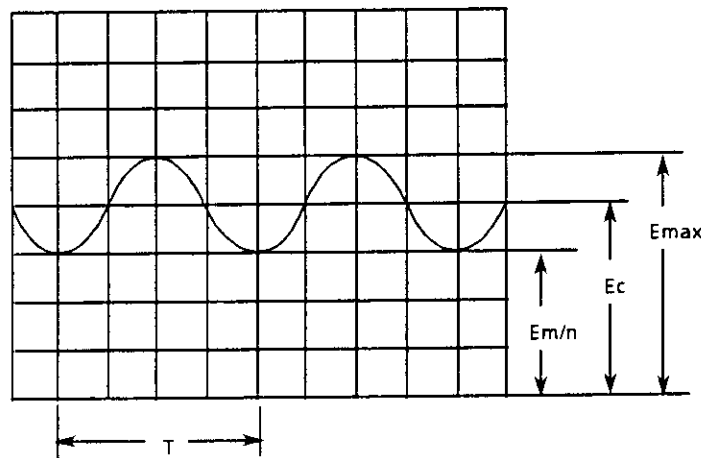

Fig. 6-7 Time Domain Display of AM Wave
(3) Measurement of AM modulation factor  $m$  at low modulation frequency
When the modulation frequency in AM modulation factor measurement described in paragraphs 6.5.2 (1) and (2) is so low that the modulation frequency resolution is impossible, set SPAN to zero and operate the MS2601A as a fixed-frequency receiver to display the demodulated waveform shown in Fig. 6-7. The modulation factor  $m$  can be obtained from  $E_{max}$ ,  $E_{min}$  and  $E_c$  as shown in Fig. 6-7.
| 5    | Select VIDEO at the TRIG menu to obtain a stationary image (Fig. 6-7).   |